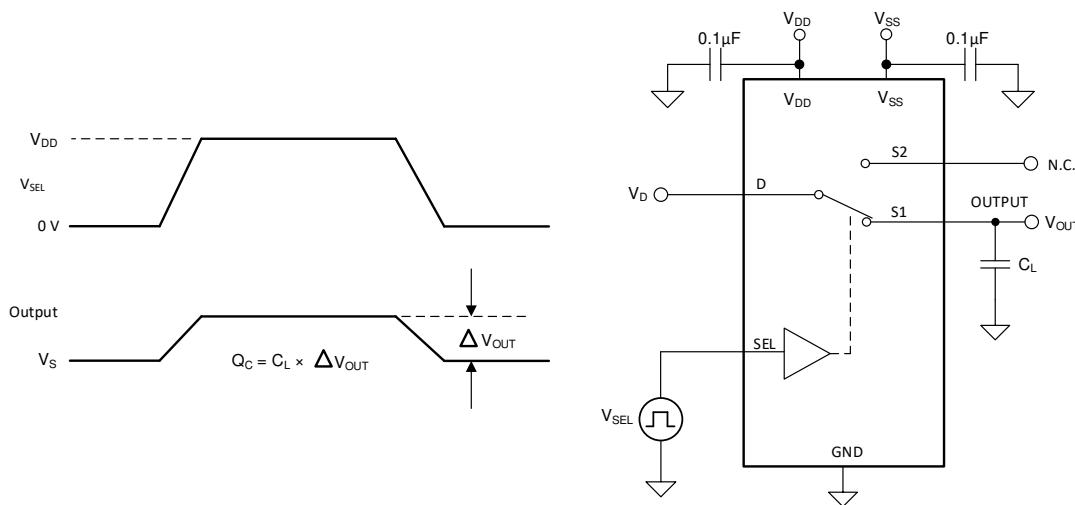

Figure 6-6. Charge-Injection Measurement Setup
The TMUX1119 has a transmission-gate topology. Any mismatch in capacitance between the NMOS and PMOS transistors results in a charge injected into the drain or source during the falling or rising edge of the gate signal. The amount of charge injected into the source or drain of the device is known as charge injection, and is denoted by the symbol Q_C . Figure 6-6 shows the setup used to measure charge injection from Drain (D) to Source (Sx).